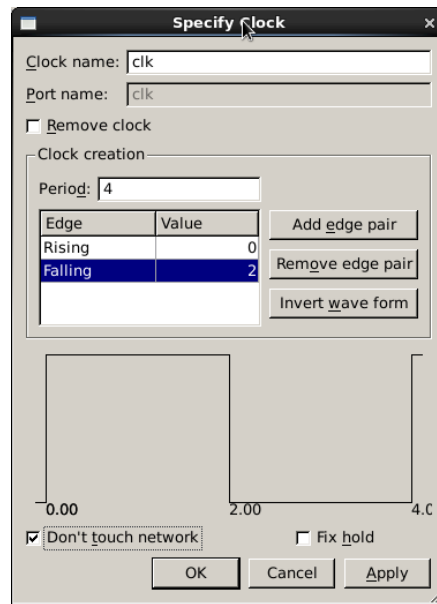

Figure 5: Clock frequency specification
- In the graphical display, double-click on the `clk` input pin after zooming in. In the attributes menu, select `Specify Clock`. In the window that appears, specify the clock period to be 4 ns as shown in Fig. 5.